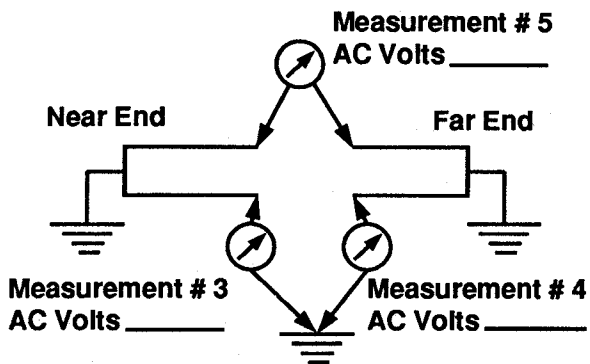

Figure 3: Measurements #3, 4 and 5
(h) It may be desirable to open the pair near its mid-point and measure and record the AC voltage to ground in each direction. This should be done with both the near and far ends grounded. These are measurements #3 and #4 (See Figure 3). Measure and record the AC voltage across this open, tip (T) to tip (T) or ring (R) to ring (R). This will be measurement #5 (See Figure 3).
**Note:** The two wires of a facility are referred to as the tip (T) and ring (R). Some parts of the world refer to these as "a" and "b."